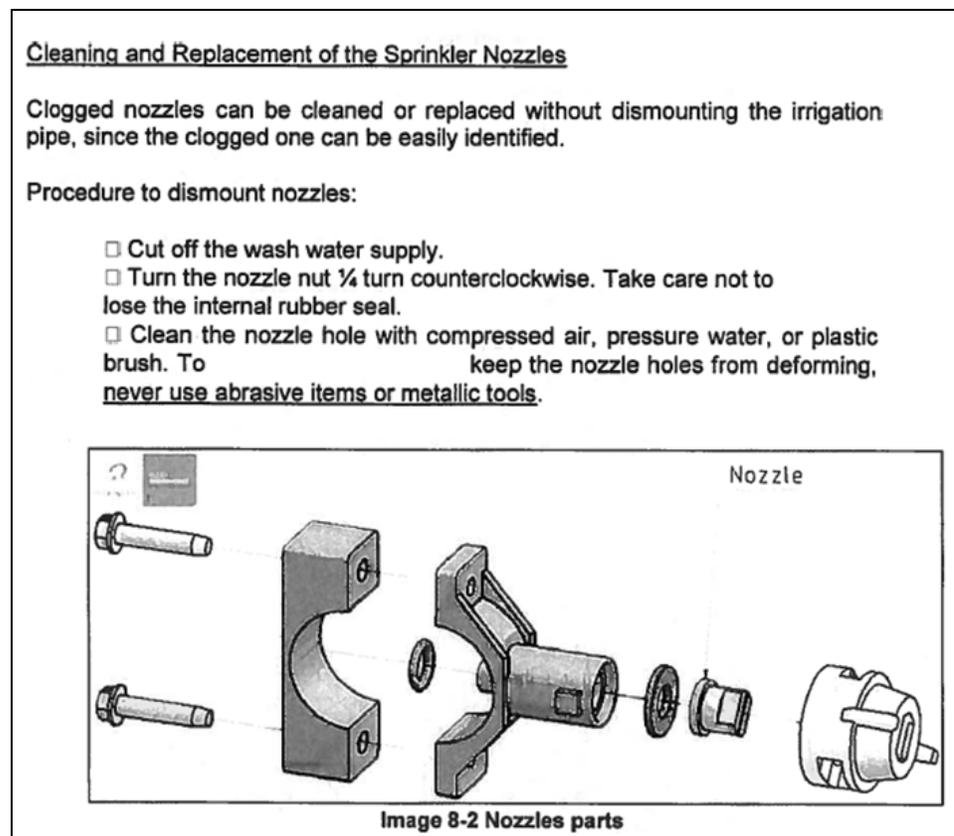

Figure 8. Procedure for cleaning a nozzle and exploded schematic.
- b. Grab the blue nozzle, turn it 90 degrees counter clockwise, and pull it off the spray bar supply header. Be careful not to drop the nozzle, seal, or nozzle tip (**Figure 8**).